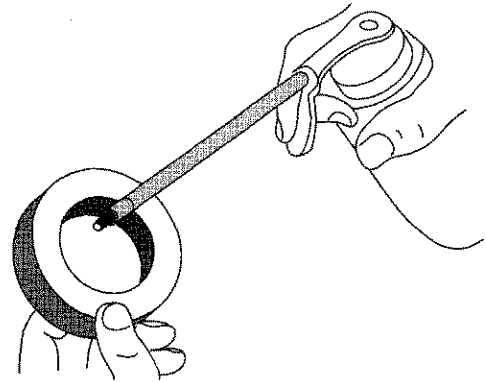

Fig. 38
4. Apply enough clean SAE 30 oil to lightly coat the filter (Fig. 38).